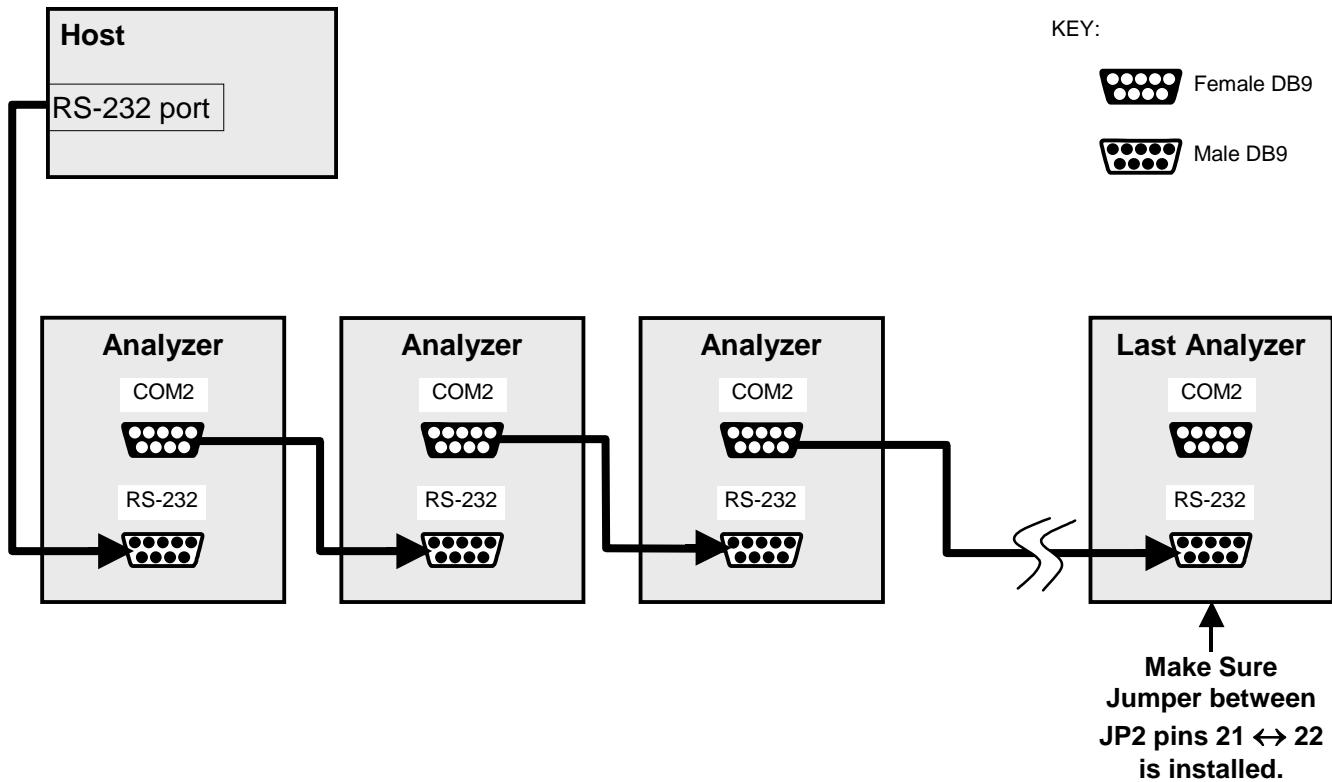

Figure 6-13. RS232-Multidrop PCA Host/Analyzer Interconnect Diagram
7. Using straight-through, DB9 male → DB9 Female cables interconnect the host and the analyzers as shown in Figure 6-13.